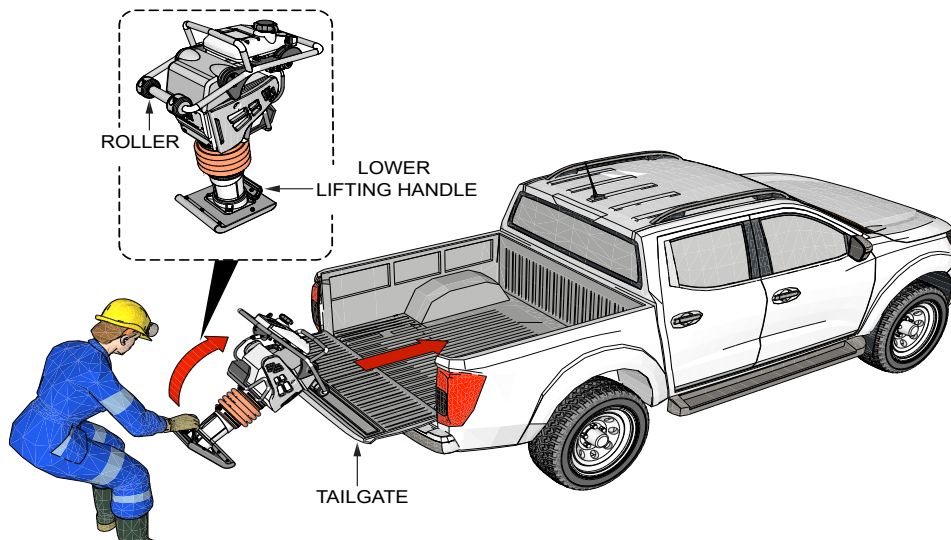

Figure 3. Loading Rammer Onto Truck Bed
1. Tilt rammer so that the roller makes contact with the edge of the truck tail gate as shown in Figure 3.